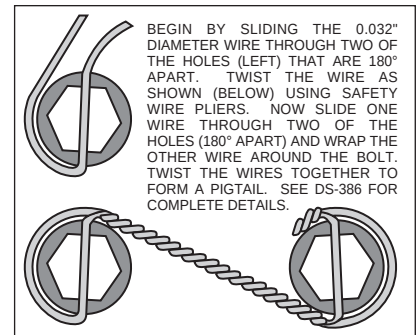

Figure 3. Safety Wire Diagram
- Install wheel studs (8) into the hub (9). Torque to 77 ft-lb. **NOTE:** There are two five lug patterns in the hub (5 x 4.50 and 5 x 4.75). Make sure of the correct hole pattern for the correct wheel application before installing studs into hub.
- Pack the large inner bearing cone (10) with high temperature disc brake bearing grease (available from your local auto parts store) and install into the backside of the hub (9).
- Install the grease seal (11) by pressing into the backside of the hub (9).
- Pack the small outer bearing cone (17) with high temperature disc brake bearing grease and install into front of hub (9). Slide the hub assembly (8, 9, 10, 11 and 17) onto the spindle. Secure using spindle washer (18), stock adjusting nut and nut locking device. Adjust bearing using a 12" wrench to tighten the adjusting nut while turning the rotor. When the rotor binds slightly, all the bearing parts are seated properly. Back of the nut 1/6" to 1/4" of a turn or enough to allow 0.001" to 0.007" end play. Lock the nut with a new cotter pin. **WARNING:** Failure to back off the adjusting nut may cause the bearing to run hot and be damaged, which could cause the wheel to lock or come off during operation, creating a risk of serious bodily harm.
- Install the o-ring (19) on the dust cap (20), and screw dust cap assembly onto the hub (9). Friction created by the o-ring (19) on the dust cap (20) keeps it from unscrewing.
- With the larger I.D. side of the rotor (12) facing away from the hat (13), bolt rotor (12) to hat (13) through the backside of the rotor using washers (14) and bolts (15). Using an alternating sequence, apply red *Loctite*® 271 to the threads and torque bolts to 155 in-lb. For an added measure of security, the bolts may be safety wired using standard 0.032 inch diameter stainless steel safety wire as shown in Figure 3. Please refer to Wilwood's data sheet DS-386 (available at www.wilwood.com/Pdf/DataSheets/ds386.pdf) for complete safety wire installation instructions.
- Slide the rotor/hat assembly over the studs (8) in the hub (9) taking care to align the small countersunk holes in the hat (13) with the small threaded holes in the hub (9). Install three flat head socket head screws (16) through the small holes in the hat (13) and torque to 85 in-lb.